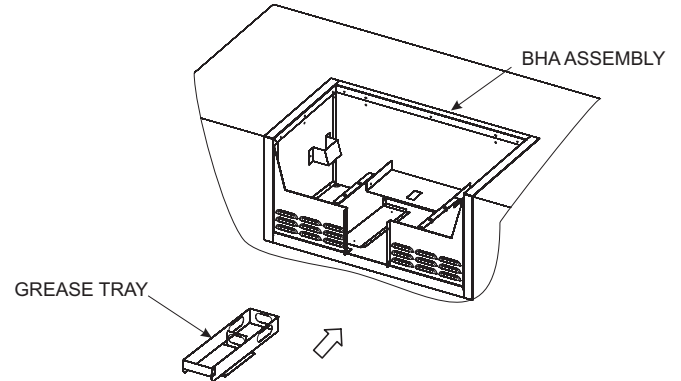

Figure 3
3. Place the grease tray into BHA surround by sliding it under the bracket. See Figure 3.